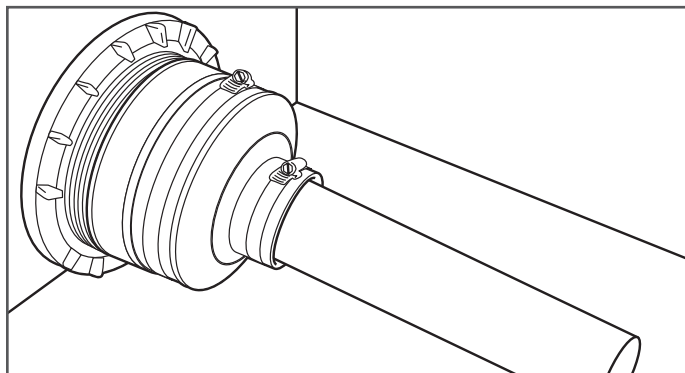

Figure 23-13
11. Refer to section 8 for instructions on how to install DoubleTrac field attachable fitting (Figure 23-13).